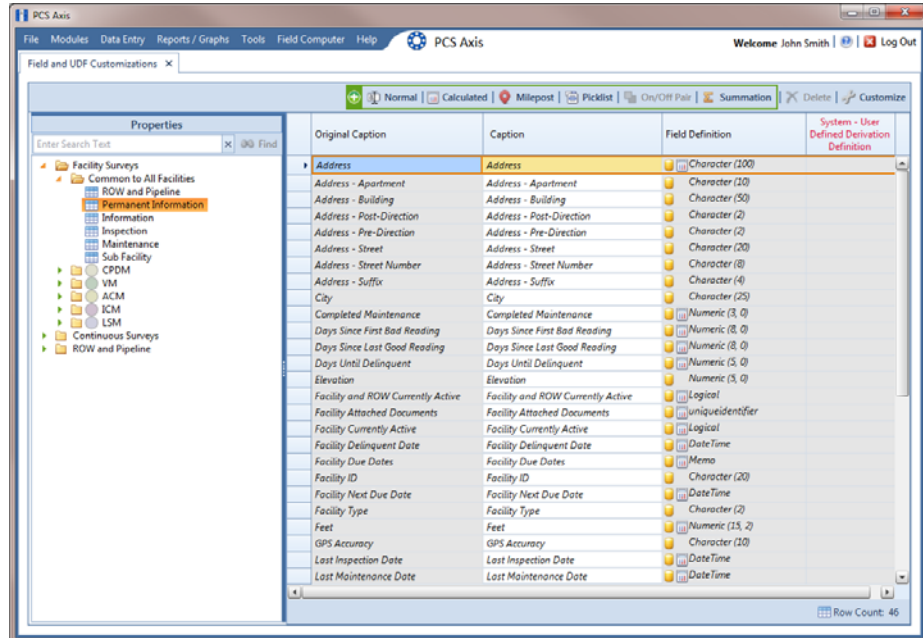

Figure 3-61. Field and UDF Customizations
- 3 Double-click **Facility Surveys > Common to All Facilities** in the *Properties* panel. Then click **Permanent Information** to display a grid with fields and property settings common to all facilities (Figure 3-61).
- Double-click **Facility Surveys > Common to All Facilities** in the *Properties* panel. Then click **Permanent Information** to display a grid with fields and property settings common to all facilities (Figure 3-61, page 114).